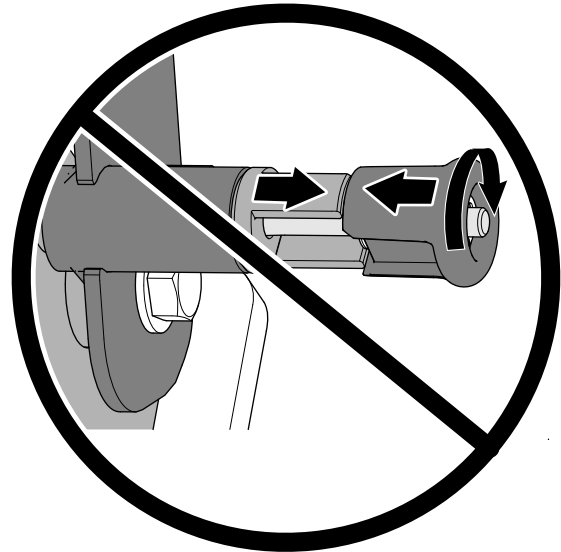

Figure 68
**Important:** Do not rotate the knob so that the latch pin cannot retract (Figure 68).